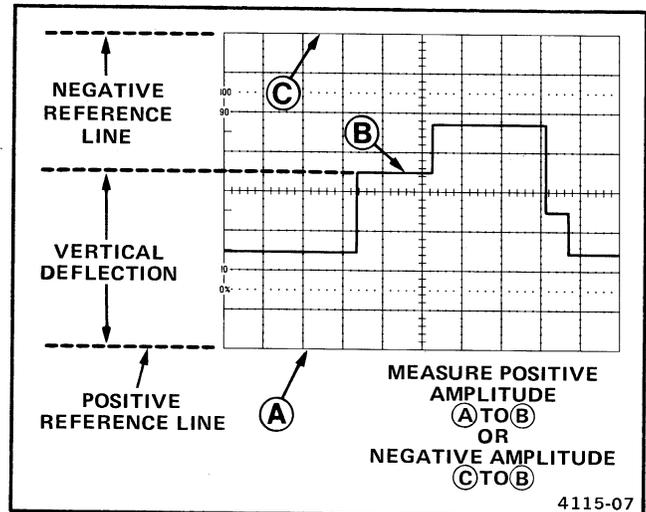

Figure 12. Instantaneous voltage measurement.
11. Measure the divisions of vertical deflection between the reference line and the desired point on the waveform at which the dc level is to be determined (see Figure 12).
**EXAMPLE:** The measured vertical deflection from the reference line is 4.6 divisions (see Figure 12), the waveform is above the reference line, the VOLTS/DIV switch is set to 2, a 10X attenuator probe is being used, and the A TRIGGER SLOPE switch is set to  $\nearrow$  (plus).